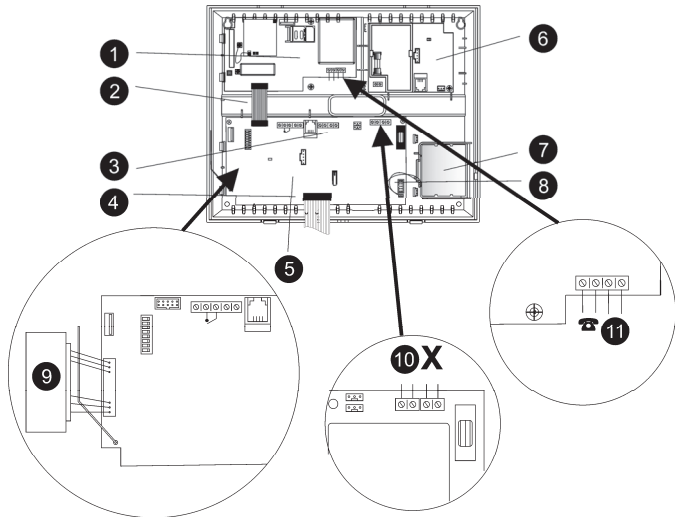

Figure 1: iConnect layout
5. Connect the telephone and telephone line (11) to their connectors on the Communication module.
6. Optional (**Figure 1**): If required connect external modules to the main unit such as wired zone module, home automation module (6), GPRS communication module (1) or Ethernet module. If Ethernet or GPRS modules are required connect a network (IP) cable or insert a SIM card to the GSM/GPRS module as required (If fitted).
7. Optional: Some devices, such as wireless siren, WSM, and wireless terminal require the plug-in transmitter (9). Mount the transmitter on the Control System's main board. For more details refer to the full installer manual.
8. Connect the battery pack to the connector (7) on the main board.